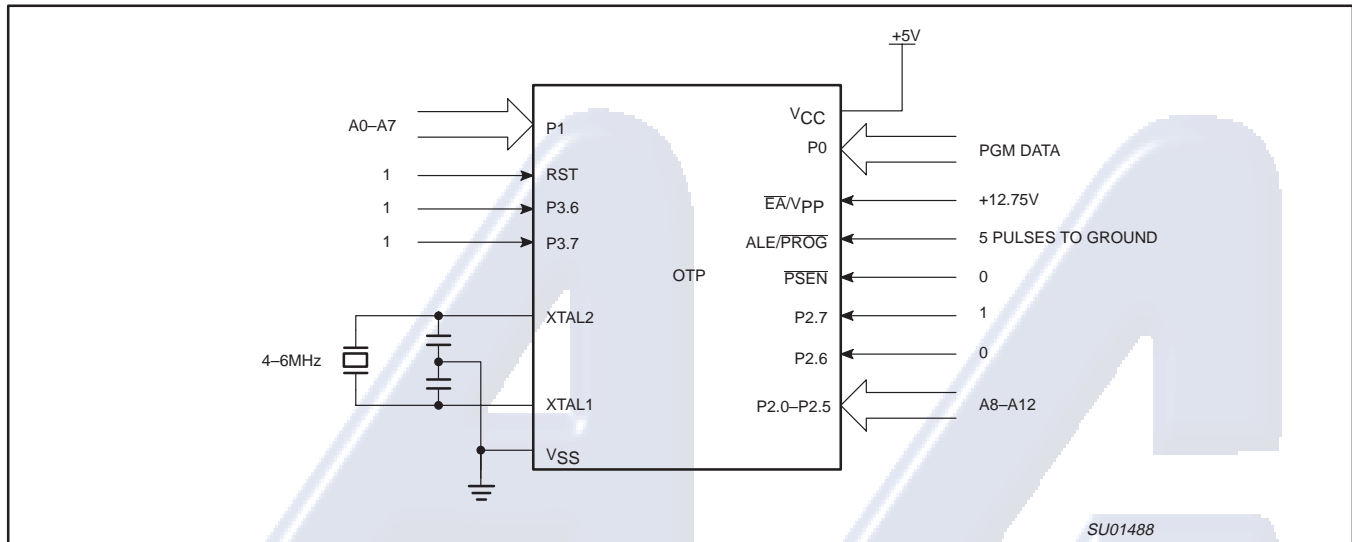
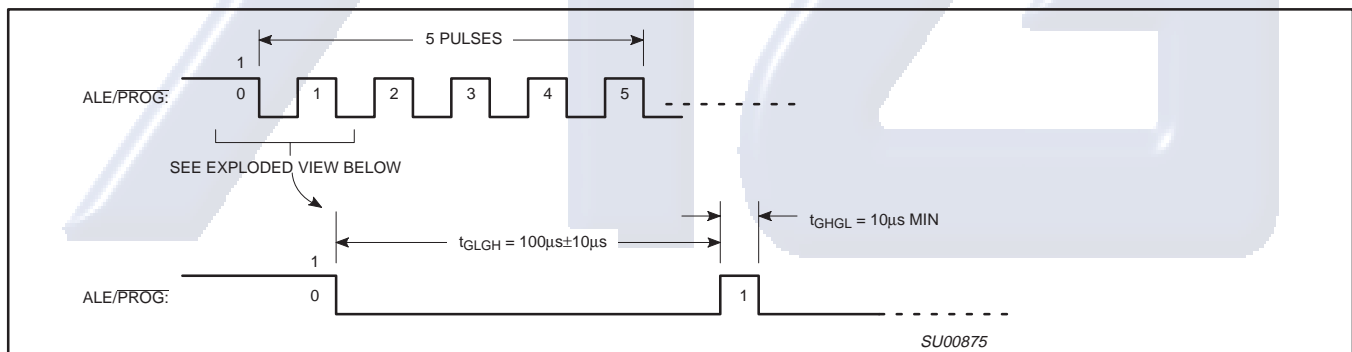
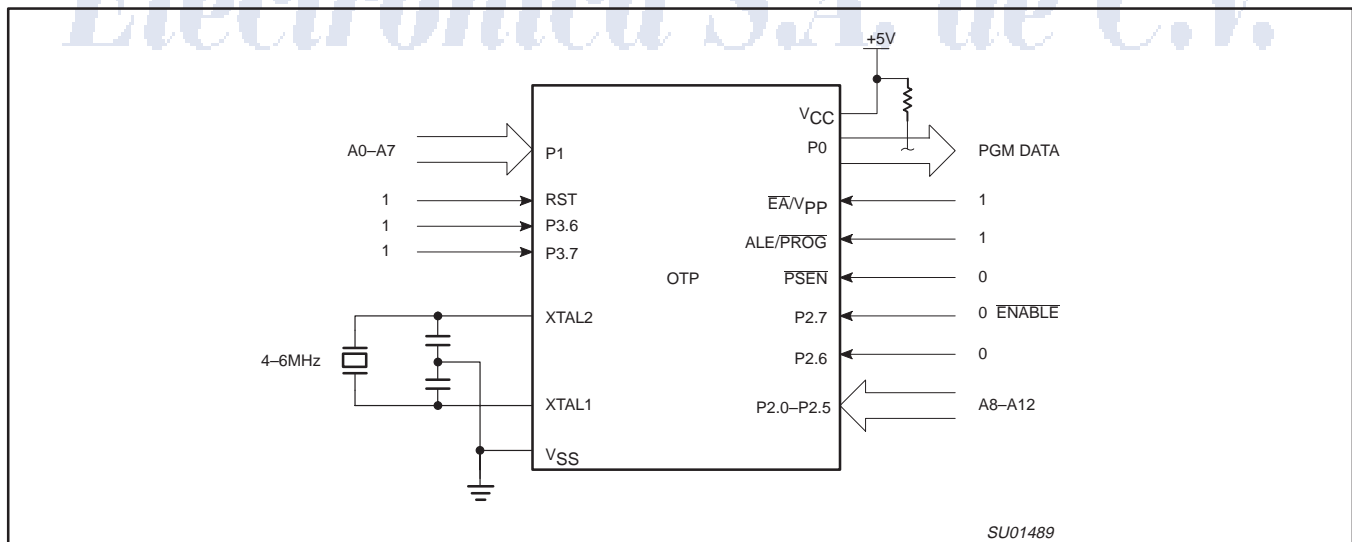

Figure 40. Programming Configuration
Figure 41. PROG Waveform
Figure 42. Program Verification
Table 9 shows the logic levels for reading the signature byte, and for programming the program memory, the encryption table, and the security bits. The circuit configuration and waveforms for quick-pulse programming are shown in Figures 40 and 41. Figure 42 shows the circuit configuration for normal program memory verification.
The setup for microcontroller quick-pulse programming is shown in Figure 40. Note that the device is running with a 4 to 6 MHz oscillator. The reason the oscillator needs to be running is that the device is executing internal address and program data transfers.
The address of the EPROM location to be programmed is applied to ports 1 and 2, as shown in Figure 40. The code byte to be programmed into that location is applied to port 0. RST, \overline{PSEN} and pins of ports 2 and 3 specified in Table 9 are held at the 'Program Code Data' levels indicated in Table 9. The ALE/PROG is pulsed low 5 times as shown in Figure 41.
If security bits 2 and 3 have not been programmed, the on-chip program memory can be read out for program verification. The address of the program memory locations to be read is applied to ports 1 and 2 as shown in Figure 42. The other pins are held at the 'Verify Code Data' levels indicated in Table 9. The contents of the address location will be emitted on port 0. External pull-ups are required on port 0 for this operation.
* FOR PROGRAMMING CONFIGURATION SEE FIGURE 40.
FOR VERIFICATION CONDITIONS SEE FIGURE 42.